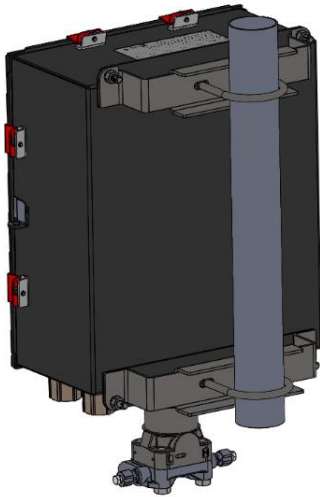

Figure 7. FB2200 (Aluminum Enclosure) on Pipe Mount
- The FB2200 mounts on a two-inch pipe or pole (see Figure 7) or can be wall- or panel-mounted using the four holes in the case and suitable attachments.
- Insert each bare wire end into its appropriate connector and secure the wire (see Figures 7 and 8).